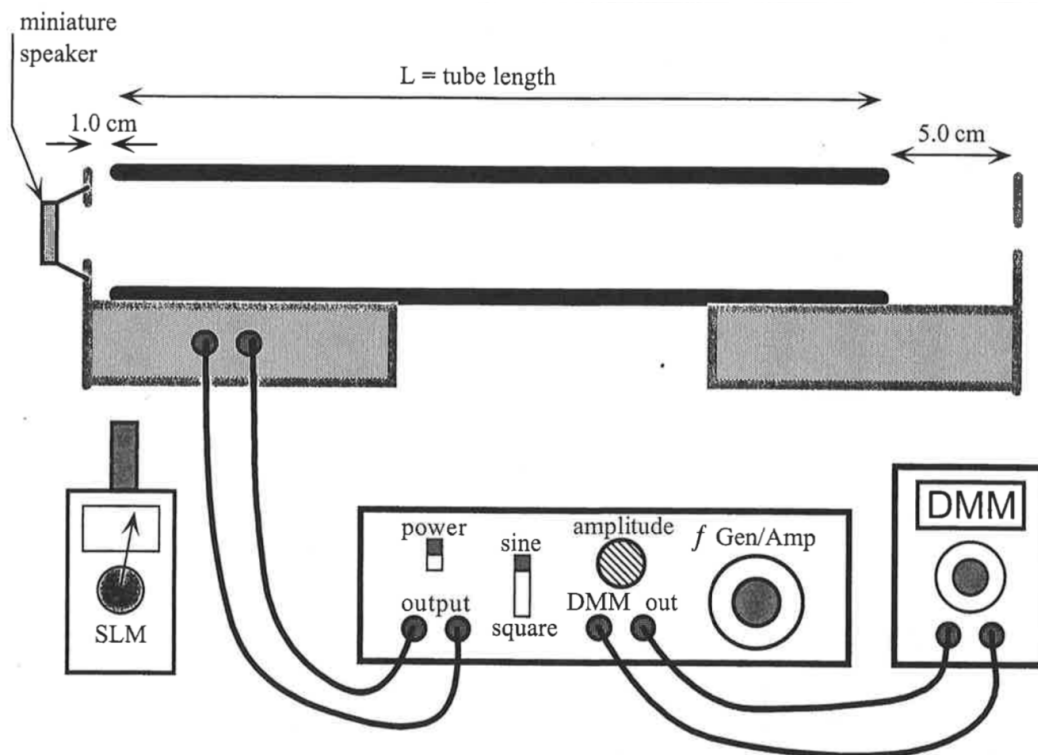

Figure 4: Setup for open tube resonance.
1. Set up the apparatus as shown in Figure 4 (next page). Examine the frequency generator/amplifier carefully. Before you turn the power switch on, select the “sin” shape and the “100×” multiplier, adjust the “amplitude” to minimum and the frequency to 10.0. Thus the frequency of the signal delivered to the miniature speaker will be approximately 1,000 Hz. You will actually measure the frequency with a DMM set on its 0-10 volt scale; multiply the voltage reading by 100 to get frequency.